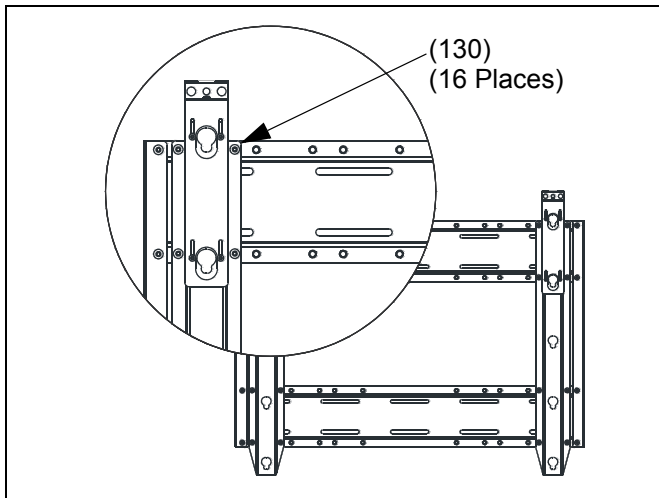

Figure 10: Installation on Outside Mounting Holes
1. Using key (150), loosely install brackets (20) to plates (10) with screws (130) (See Figure 10). Ensure the following:
- Brackets (20) are installed to outside set of mounting holes, closest to supports (30).
- Brackets (20) are installed so that latches (40) are towards top of mount.
2. Tighten all 16 screws (130) securely.
- 33" horizontal dimension: Install brackets (20) to outside set of mounting holes, closest to supports (30) (See Figure 10).
3. Tighten all 16 screws (130) securely.